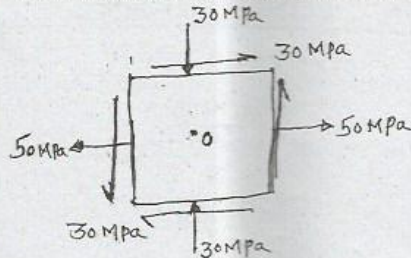

Fig. 15 (a)
- (ii) A cantilever beam carries a load of 10 kN which is 1 m from the support. Find the slope at that point. Take EI as constant. (5)
- (ii) A cantilever beam carries a load of 10 kN which is 1 m from the support. Find the deflection at that point. Take EI as constant. (6)
- (ii) Find the critical load of a mild-steel scale of size $300 \times 30 \times 2 \text{ mm}^3$ which is properly built-in such a way that both the ends are highly rigid. Assume it is a long column and its modulus of elasticity is 200 GPa. (6)
- (b) (i) Appropriately analyze an open-coiled helical spring for its shear stress produced in it. (7)
- (ii) With a neat sketch, explain the phenomenon of 'buckling' of long column. (6)
15. (a) A machine element is subjected to the various stresses as shown in Fig. 15 (a). Using Mohr's circle method, find the principal stresses, maximum shear stress, and their appropriate inclinations. (8 + 5)